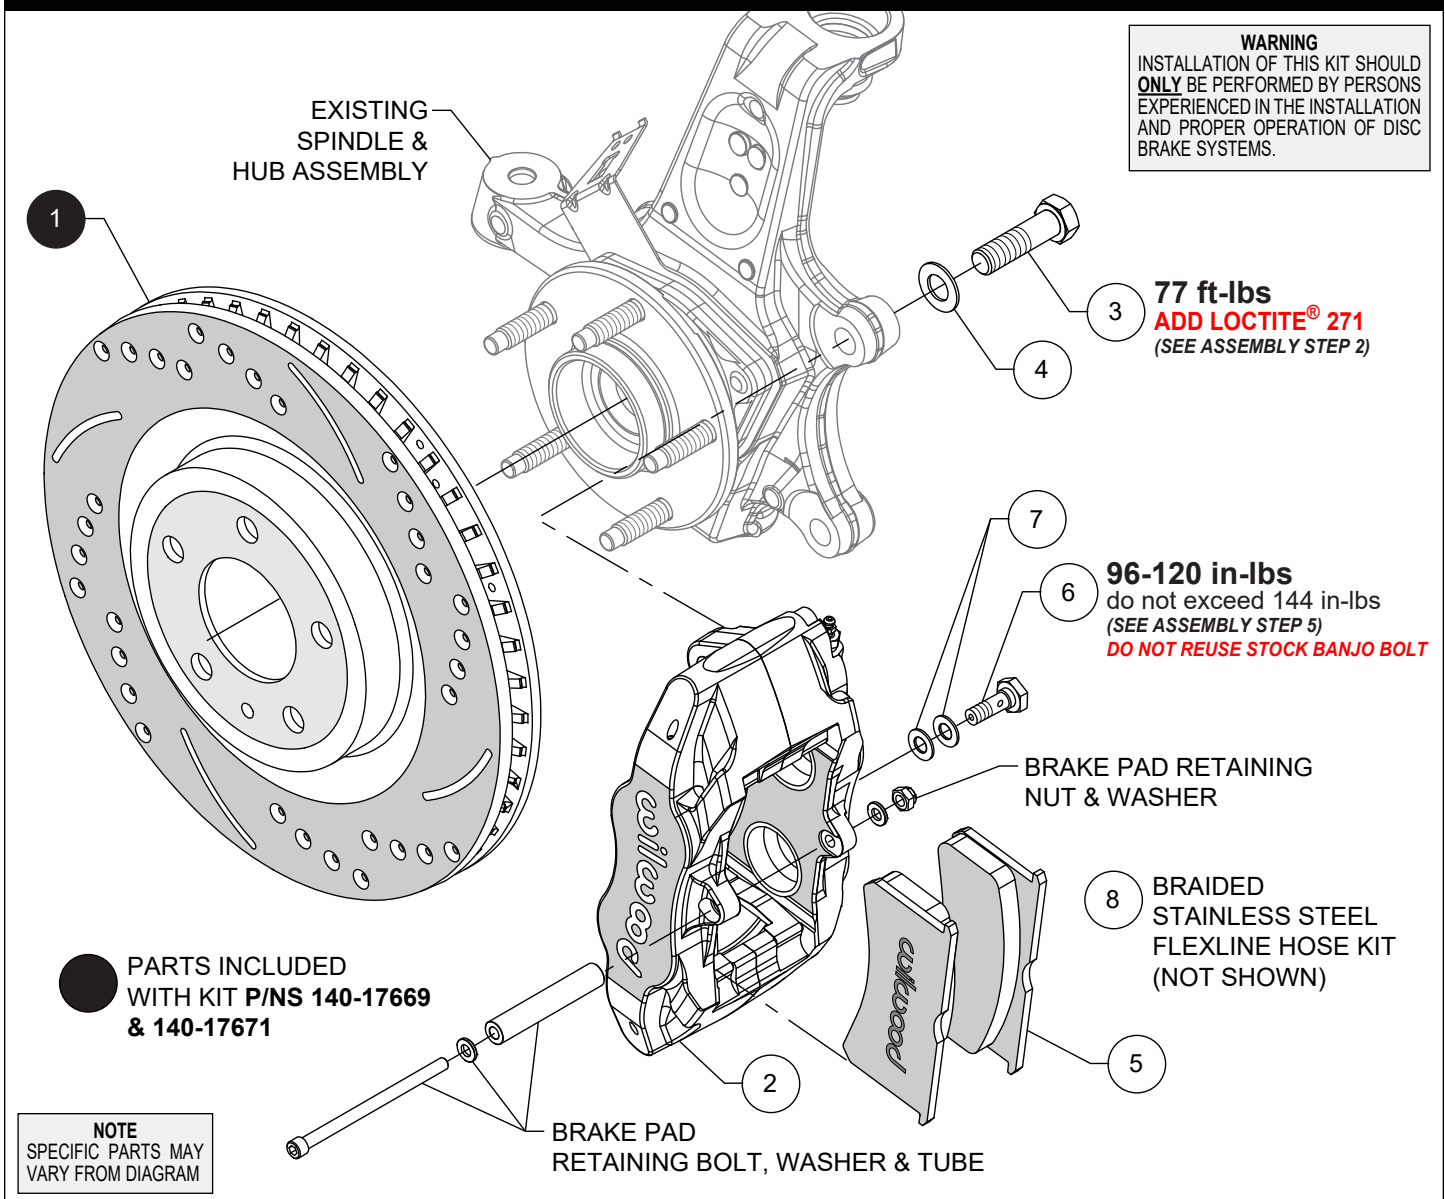

Figure 1. Typical Installation Configuration
**NOTE:** Numbers in parenthesis refer to the parts list and Figure 1 on the preceding pages.
**STEP 1** This step for kit p/ns 140-17669 & 140-17671 only: Slide the new rotor (1) onto the hub. **NOTE:** The rotor must fit flush against the hub flange or excessive rotor run out may result. Install three lug nuts (finger tight) to keep the rotor in place while continuing with the installation as shown in Photo 1.
**STEP 2** Mount the caliper (2) onto the OEM caliper mounting bosses of upright using bolts (3) and washers (4), as shown in Figure 1. Apply red *Loctite*® 271 to bolt threads, and torque to value shown in Figure 1.
**STEP 3** Remove the caliper pad retainer bolt, locknut, washers, and tube from the caliper. Insert the brake pads (5) into the caliper, with the friction material facing the rotor, Photo 2. Secure the brake pads in place with the pad retainer bolt, locknut, washers, and tube, Photo 3. The locknut should be snug without play in the bolt or tube. Be cautious not to over tighten.
**STEP 5** Attach brake line to caliper. Install Wilwood's braided stainless steel flexline hose kit (8) that is included with this kit. See below for more info on flexline kits.
Route new flexline following OEM brake hose routing and connect to OEM hardline. Secure to OEM chassis brake bracket using supplied retainer clip. Connect to caliper using banjo bolt (6) and crush washers (7), Figure 1. Do not use lubricant or thread sealant on banjo bolt. Torque to minimum value shown in Figure 1. Check for leakage, increasing torque only to stop leakage without exceeding maximum specification. Replace crush washers and banjo bolt whenever reassembly is required. **Ensure hoses are routed to prevent contact with moving suspension, brake or wheel components.**